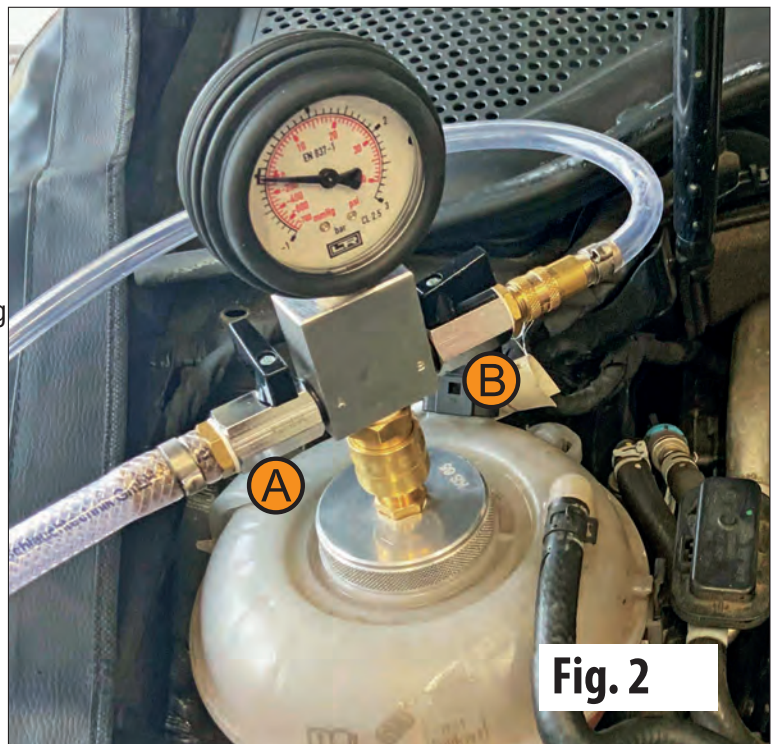

Fig. 2
- Open shut-off valve (B) on the valve block (6) (**Fig. 2**). A vacuum is now generated in the cooling system. Evacuate (generate vacuum) until a vacuum of min. -0.85 bar is reached.
- Close shut-off valve (B) on the valve block (9) and disconnect the compressed air supply.